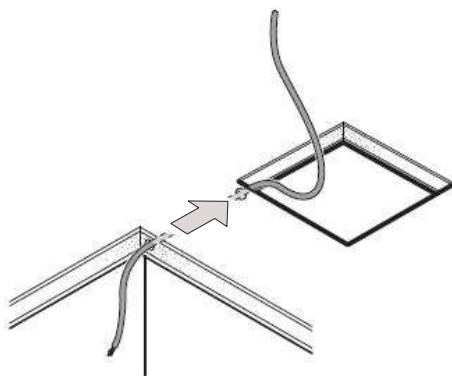

Fig. 07: Electrical power supply cable
- ▶ Provide a 230 V~ power supply cable to the cut-out. Possibly lead the cable through the roof insulation like shown in Fig. 07.